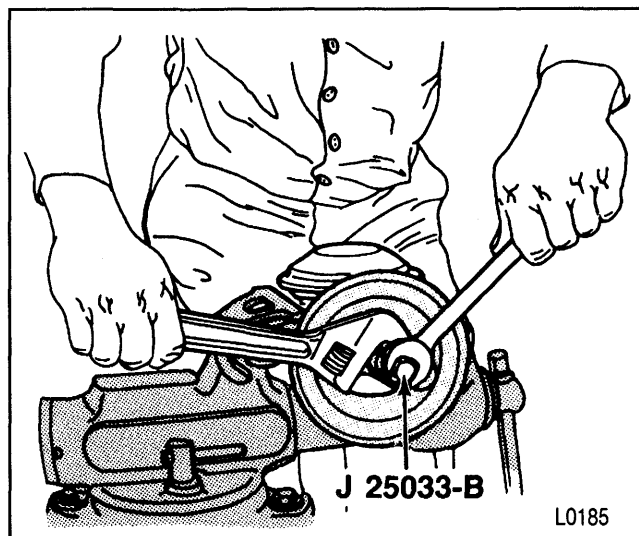

Figure 7—Installing the Pulley
Assemble (Figure 7)
2. Pulley to the pump using J 25033-B until the pulley is flush with the end of the shaft (figure 7).